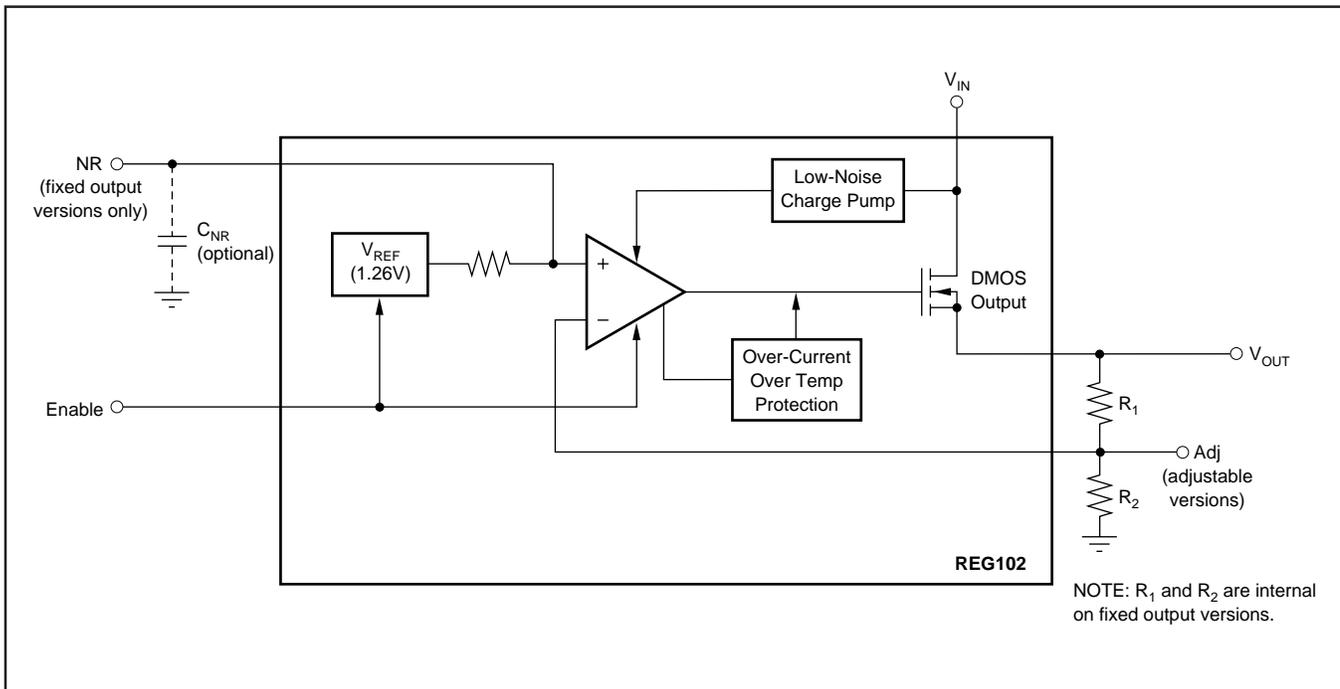
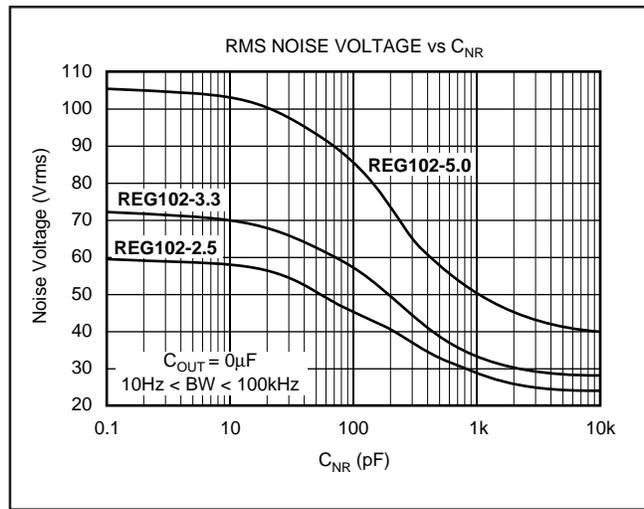

FIGURE 4. Block Diagram.
FIGURE 5. Output Noise versus Noise Reduction Capacitor.
Connecting a capacitor, C_{NR} , from the Noise Reduction (NR) pin to ground forms a low-pass filter for the voltage reference. Adding C_{NR} (as shown in Figure 4) forms a low-pass filter for the voltage reference. For $C_{NR} = 10\text{nF}$, the total noise in the 10Hz to 100kHz bandwidth is reduced by approximately a factor of 2.8 for $V_{OUT} = 3.3\text{V}$. This noise reduction effect is shown in Figure 5 and as *RMS Noise Voltage vs C_{NR}* in the Typical Characteristics section.